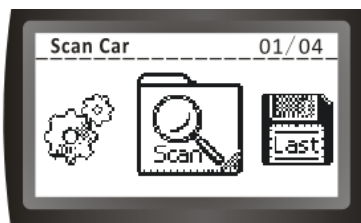

Figure 18
- If the vehicle Diagnostic Protocol is OBD-II/EOBD-II, But the DTC Code is **MANUFACTORY**, Please press UP or DN button, then press yes , the screen will change to: (Figure 18)